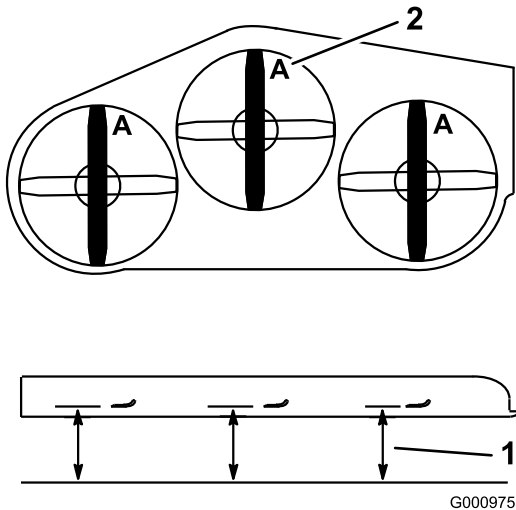

Figure 95
4. Measure at **A**, and from a level surface to the cutting edge of the blade tips (Figure 95).